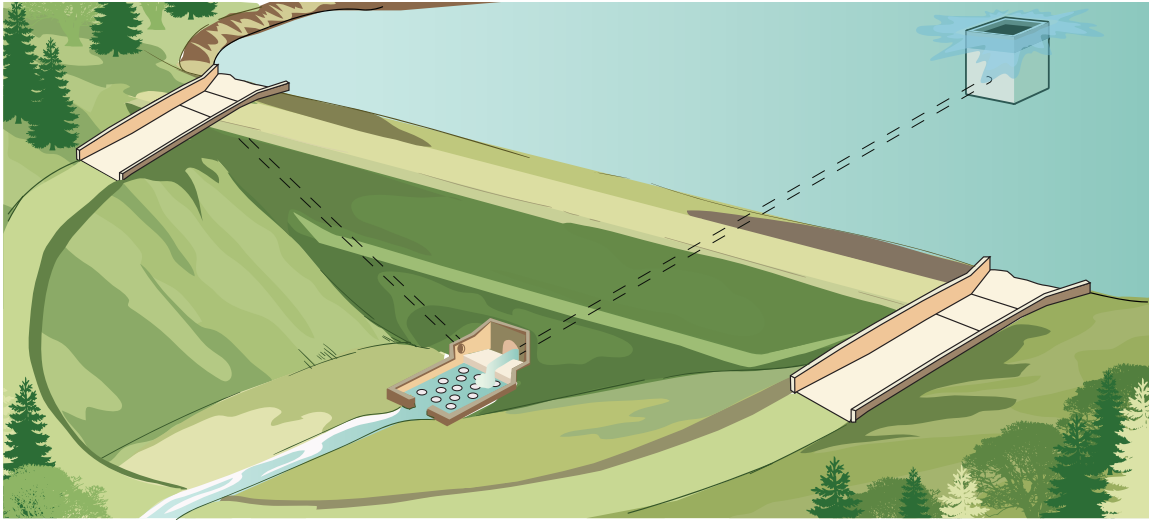

Figure 2.0.3. Dams are used to retain and control the flow of water.
- **2.3 Dams and Reservoirs** – Dams can be earthen or “hard” materials such as concrete. Dams retain water in basins behind them, such as reservoirs, and control the release of water downstream (Figure 2.0.3).